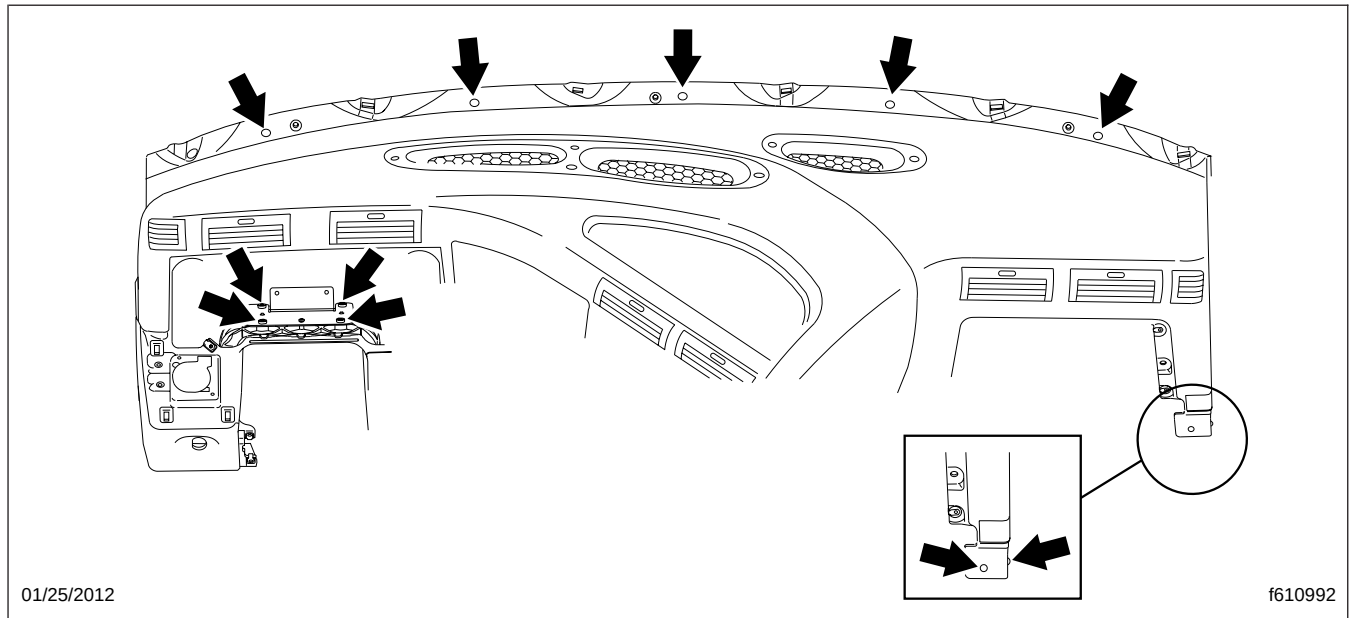

Fig. 7, Dash Fasteners
13. Raise the dash enough to provide clearance, and suspend it securely out of the way. See Fig. 7. See Section 60.06 for instructions.